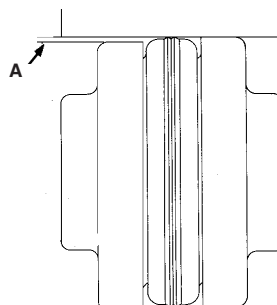

Figure 2-3
To check the PARALLEL alignment: (Refer to Figure 2-3)
2. Measure the maximum offset (A), Figure 2-3, at various points around the periphery of the coupling. DO NOT rotate the coupling.